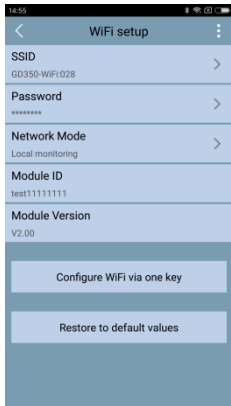

Figure 7
- B. Ensure that the mobile phone has been connected to the WiFi module. For details about the connection, see the operation described in the local monitoring mode. Refresh the WiFi list and select the corresponding WiFi module. The **WiFi setup** page is displayed, as shown in Figure 7.